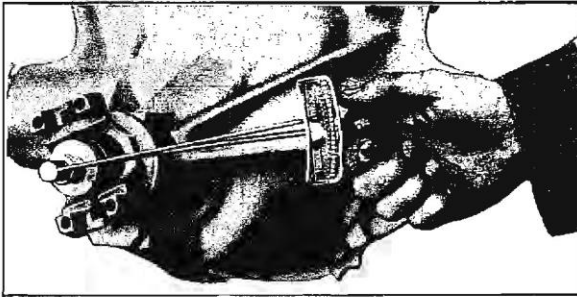

Fig. 4-41 Checking Pinion Bearing Preload
6. Check preload by using a lb. in. torque wrench (Fig. 4-41).